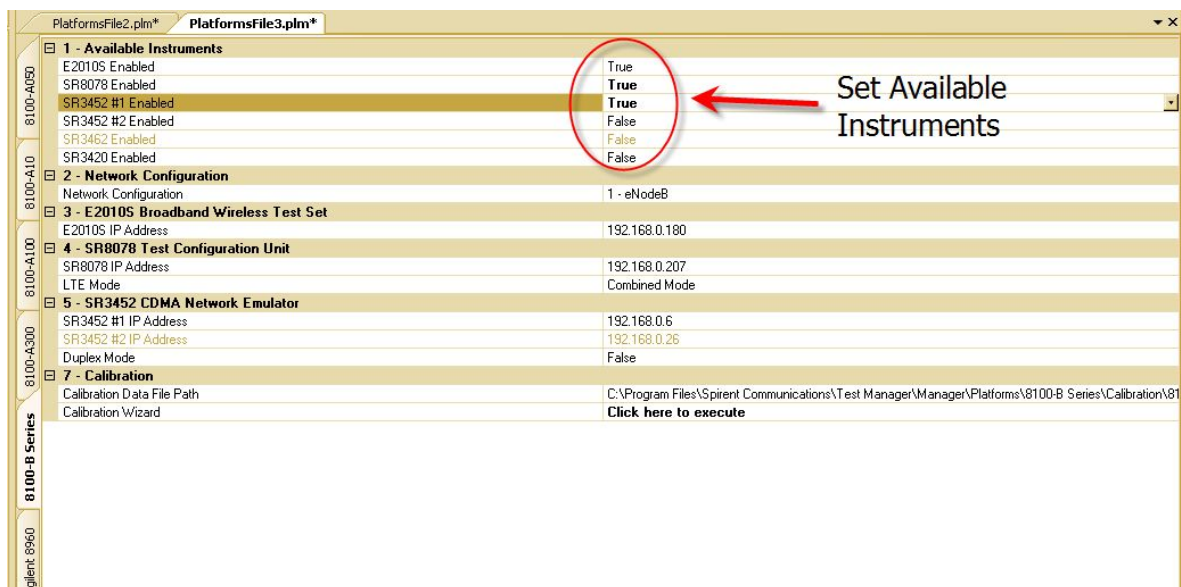

Figure 4-3: 8100-B Series Tab
- From the *8100-B Series* tab, initiate the calibration routine using the **Calibration Wizard** platform parameter, as shown in Figure 4-3.